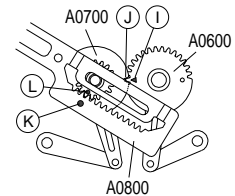

Fig. 14
- When refitting the threading arms (Fig. 14) the circular mark (I) (Pos. A0600) must be opposite the notch (J) (Pos. A0700).
- When refitting the threading rack gear (Pos. A0800, Fig. 14) the hole (K) must be opposite the circular mark (L) of the threading slide (Pos. A0700).
- Attach the retaining washer (Pos. A0900, Fig. 14).